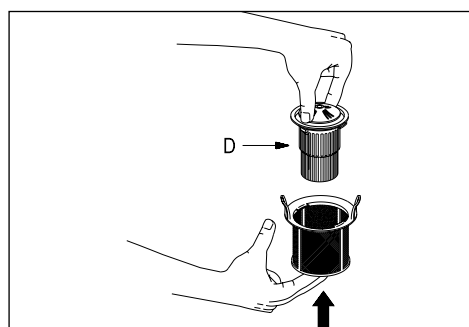

fig. 16b
- Remove the microfilter (D). Push it out of the housing from underneath (see fig. 16b).